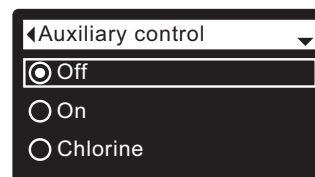

FIG. 76
7. Press the SELECT (O) button to display the Auxiliary control menu (See Figure 76).
8. If the desired option already has a black dot next to it (See Figure 76), go to Step 9. Otherwise, press the DOWN (▼) or UP (▲) buttons to scroll to the desired option, then press SELECT (O) to choose it.